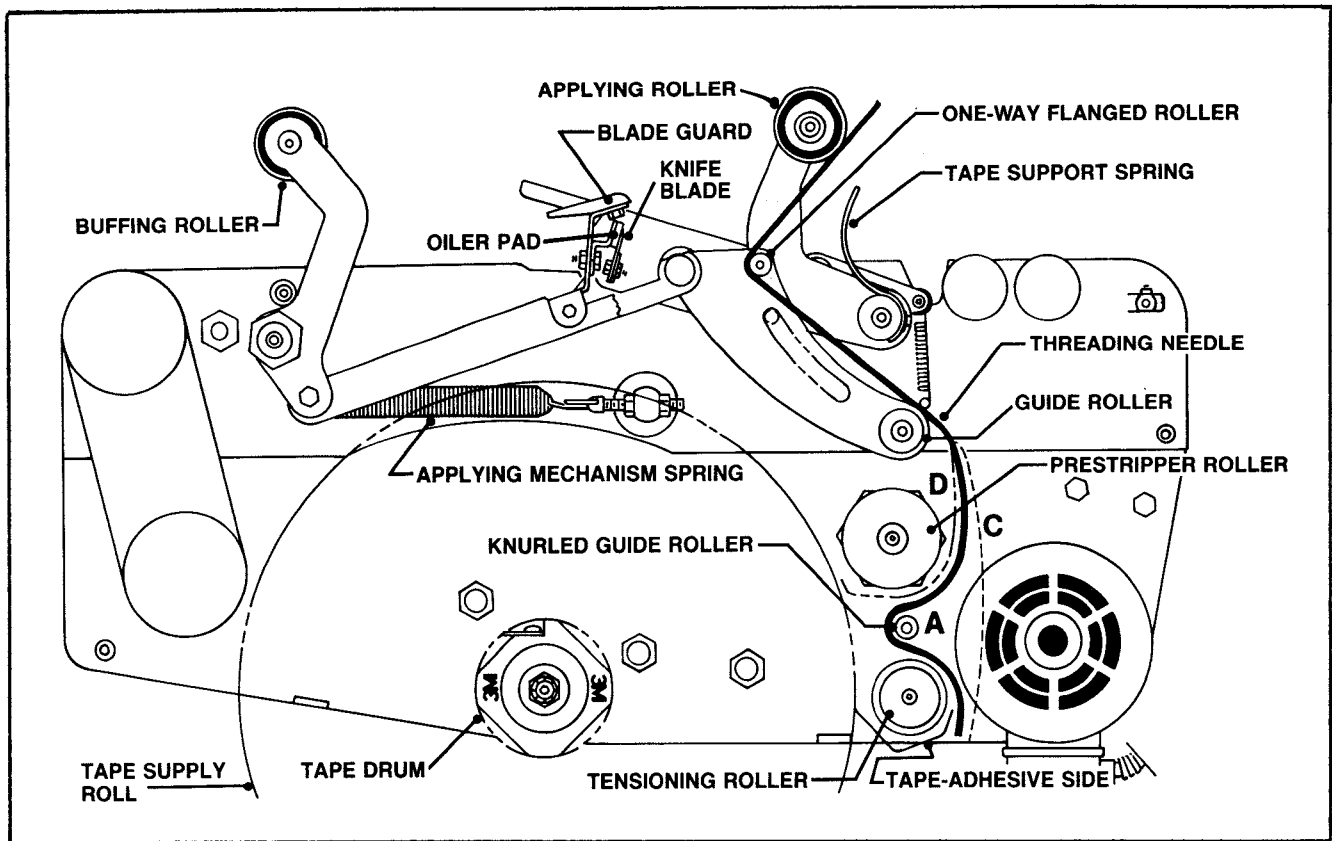

FIGURE 5A TAPE THREADING DIAGRAM - BOTTOM TAPING HEAD - LEFT SIDE VIEW
- 1) With the temporary threading needle already in position, as shown in figure 5A, follow the tape loading procedure from figure 5C to complete the tape threading with this exception; thread tape around tensioning roller, knurled guide roller and prestripper roller in one of three paths depending on the application.